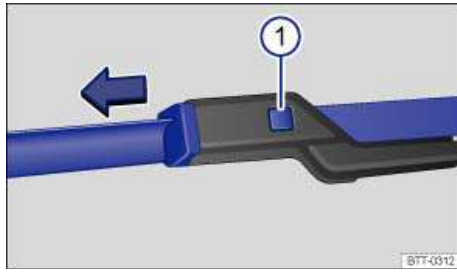

Fig. 167 Changing the windshield wiper blades.
- Press and hold the release button ⇒ fig. 167 \(1\).